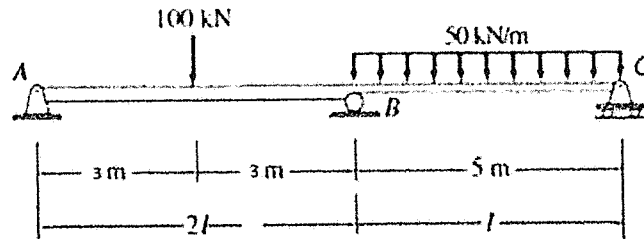

Fig. 1
17. For the continuous beam with loading as given Fig.1, evaluate all the support reactions using the Three Moment method. (10 marks)